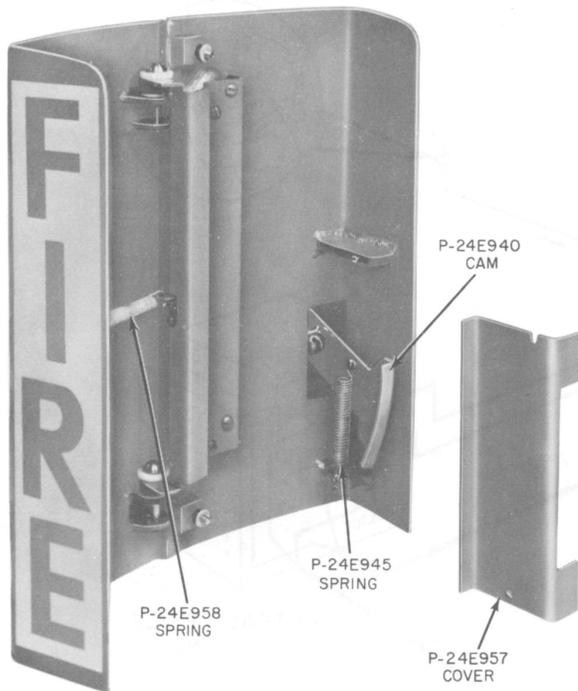

Fig. 4—Cam-Assist Ice Breaker
- Cam-assist ice breaker door handle (111C and 111E apparatus boxes, see Table A and Fig. 4)